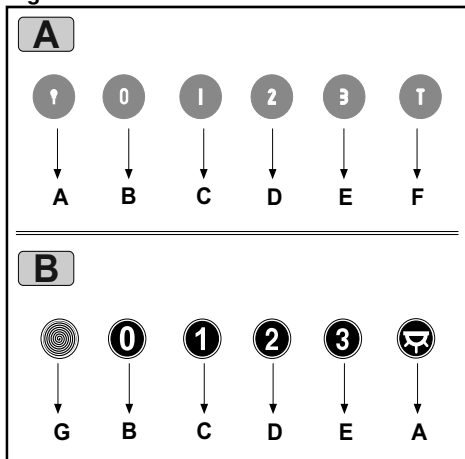

Fig.9
• **COMMANDS:** (Fig.9 A) LUMINOUS the key symbols are explained below:
• **COMMANDS:**(Fig.9 B) MECHANICAL the key symbols are explained below: